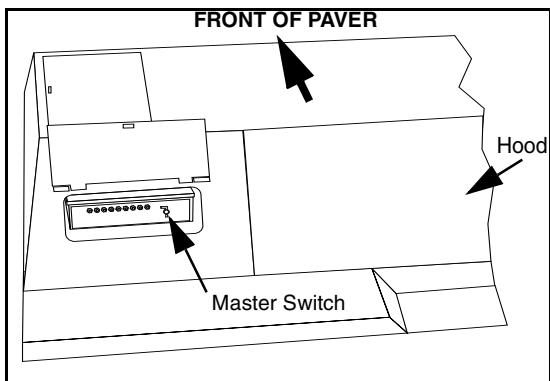

Figure 40. Master Switch Location
- 2) Set the Master Switch to the ON position. The Master Switch is accessible through an access cover in the hood, to the left of the operator's console (Figure 40) .